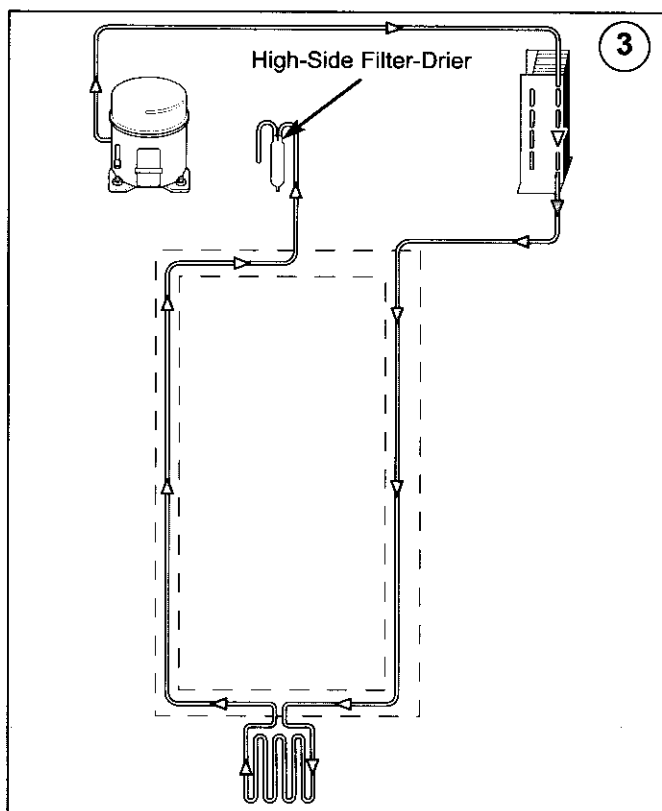

Figure 4-3. High-Side Filter-Drier
### (3) - High-Side Filter-Drier (Figure 4-3)